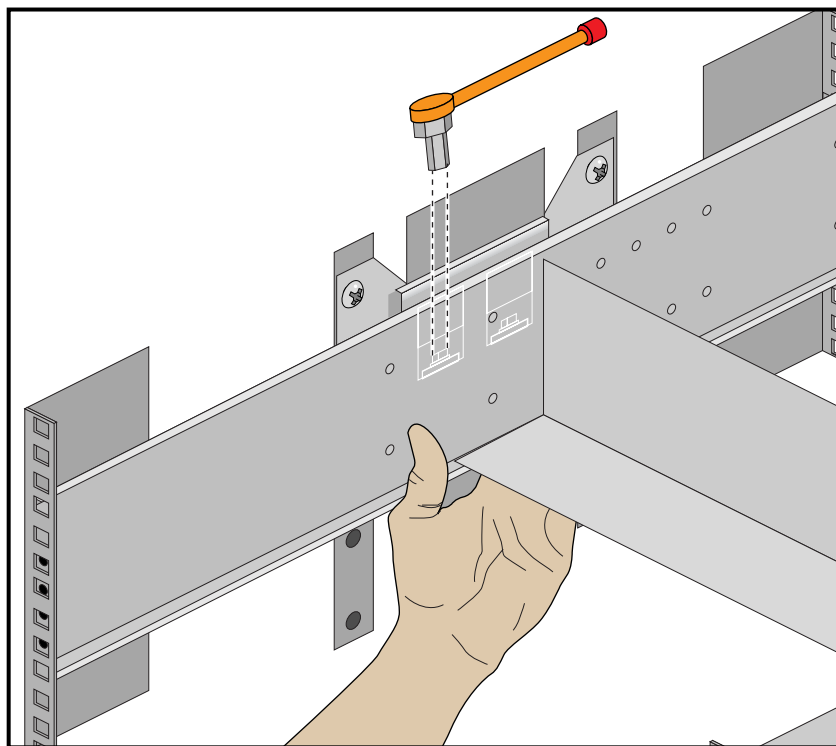

Figure 2-7 Alignment with the D-Rack Stiffener Vertical Bolt
2. Attach the inner bracket to the outer bracket using the vertical bolt and socket wrench (Figure 2-7). Do **not** tighten these bolts all the way. They will be used later for altering rail aligning using the alignment tool.